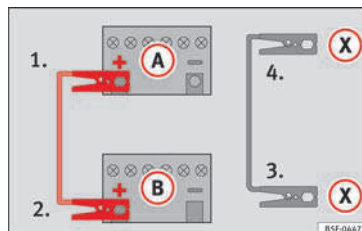

Fig. 73 Diagram of connections for vehicles with Start-Stop system.
- *For vehicles with Start-Stop system:* connect one end of the *black* jump lead (X) to a suitable ground terminal, to a solid piece of metal in the engine block, or to the engine block itself » Fig. 73.
5. Connect the other end of the *black* jump lead (X) to a solid metal component bolted to the engine block or to the engine block itself of the vehicle with the flat battery. Do not connect it to a point near the battery (A).